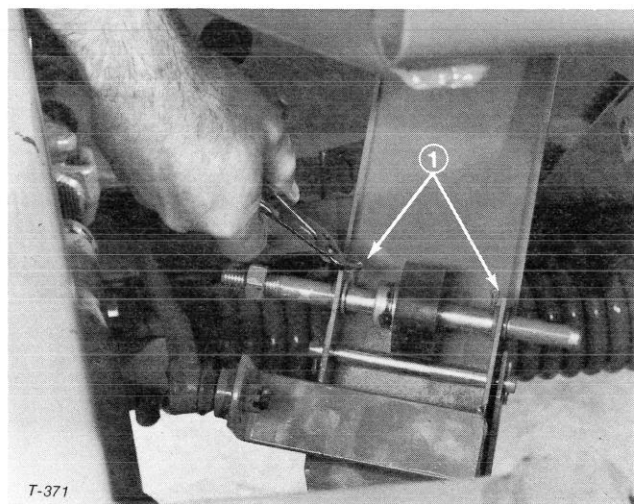

Figure 16
3. Remove cotter pins from traction pedal shaft and discard pins (Fig. 16).